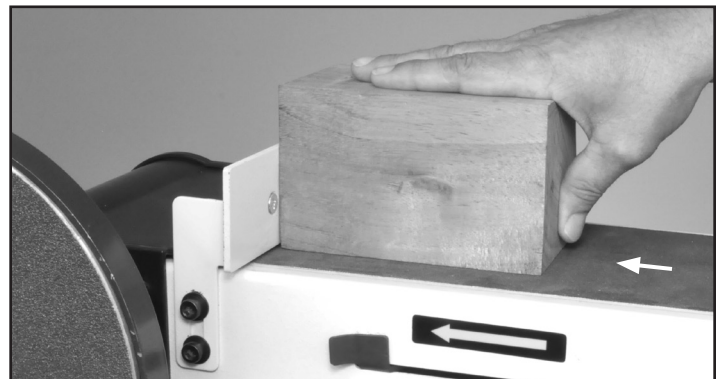

FIG. 33
2. Keep the work piece against the backstop and move it evenly across the sanding belt. Use extra caution when sanding very thin pieces. FIG. 33 & 34.